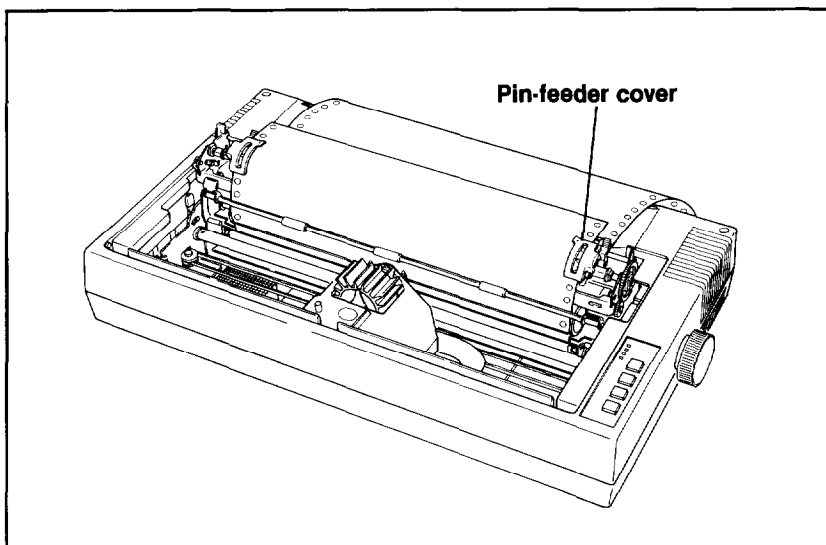

Figure 3-8. Pin-feeder covers
3. Adjust the pin-feeders to the paper width by sliding them inward to line up with the paper pin-holes. Place the paper pin-holes onto the tractor pins, close the pin-feeder covers, and adjust the paper tension by pulling the pin-feeders gently apart (see Figure 3-8).